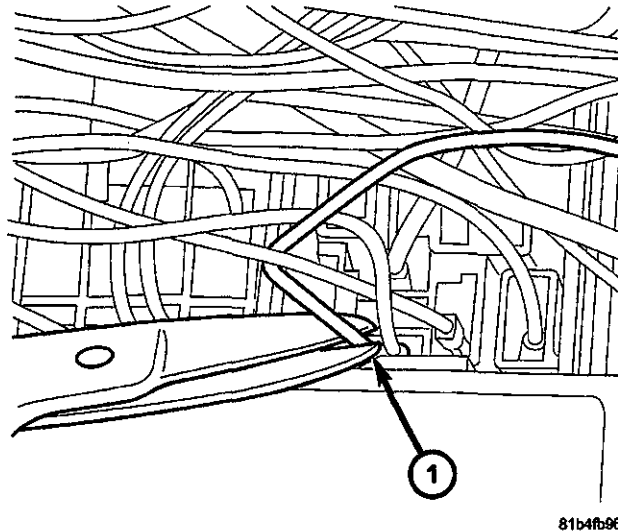

Fig. 2 CUT ASD 20 GA. PK WT TO FUEL PUMP
8. Cut the PK/WT wire, that connects to the fuel pump relay, as close to the PDC cavity A13 terminal as possible (Fig. 2).